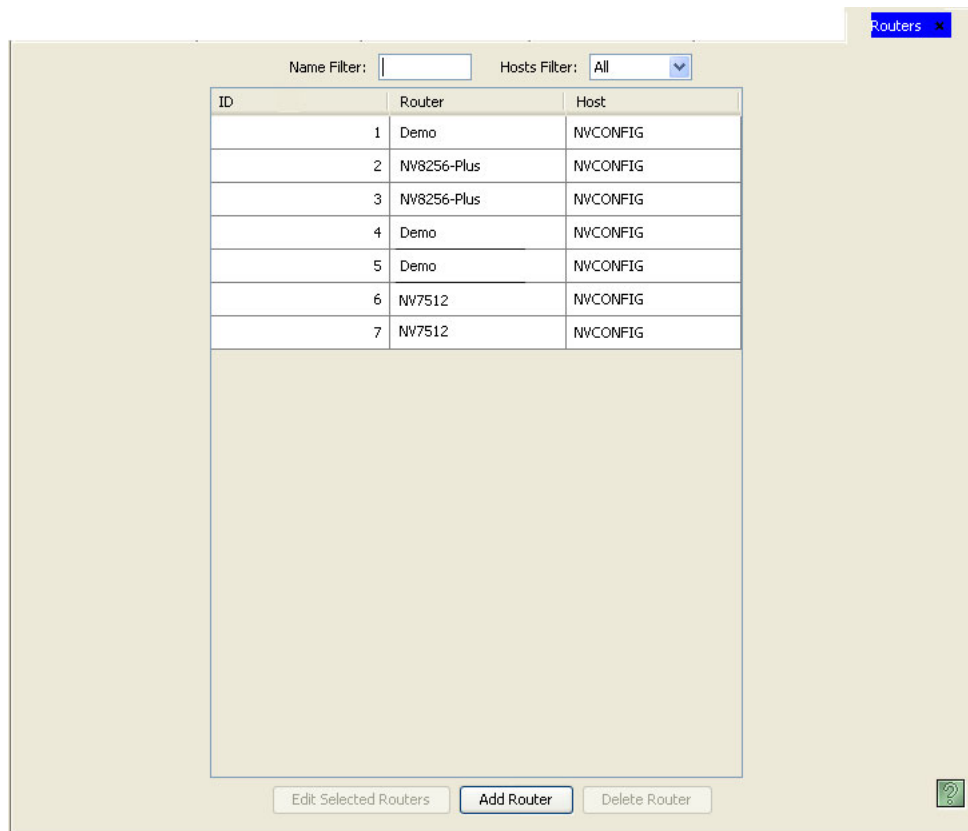

Figure 7-14. Routers Page
- 2 From the Navigation area, select the 'Configuration' pane and then 'Routers'. The 'Routers' page displays, as shown in Figure 7-14.